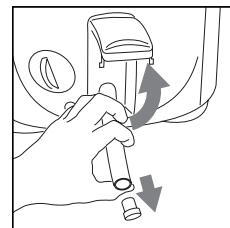

fig. 6
2. Open the panel (as shown in Fig. 6) and take out the oil drain tube.
3. Remove the cap (as shown in Fig. 6) and at the same time hold the tube between two fingers to prevent the liquid from being released until the end of the tube has been placed in a container.